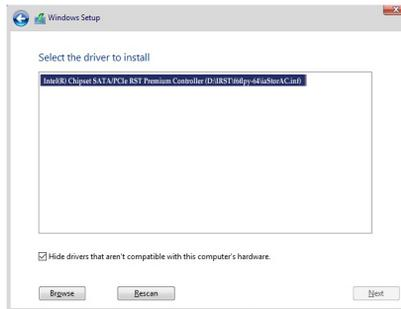

Figure 1
When a screen as shown in Figure 1 appears, select **Intel(R) Chipset SATA/PCIe RST Premium Controller (I) \IRST\6f1py-x64\ich9m\AC.inf** and click **Next** to load the driver and continue the OS installation.